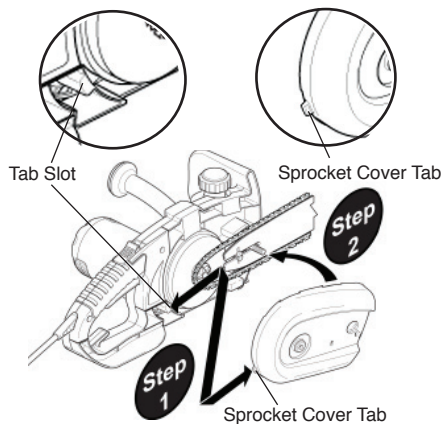

Figure 7 - Installing Sprocket Cover
9. Insert the sprocket cover tab into the saw body tab slot, *Step 1*. Then lower sprocket cover onto guide bar bolt, *Step 2* (See Figure 7). **NOTE:** At this point the sprocket cover will not be flush against the saw body.